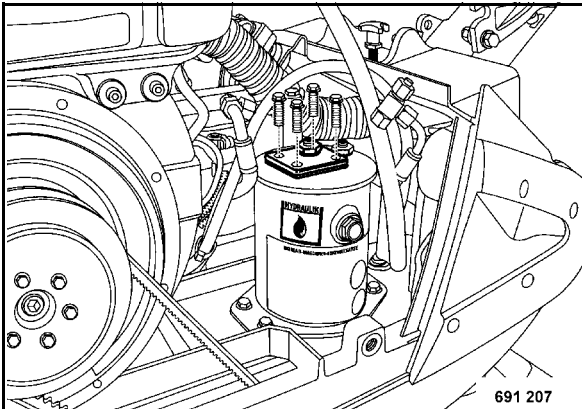

Fig. 75
- Disconnect the connecting flange (Fig. 75).